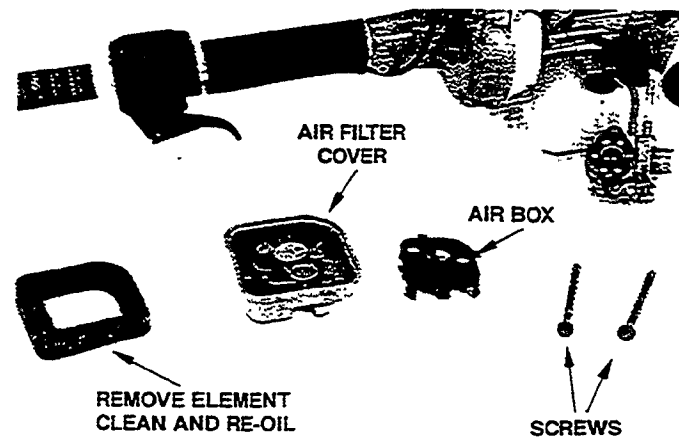

Figure 21
- Clean and service air filter (after cleaning put small amount of engine oil on sponge and squeeze out excess) (Figure 21).
- Check fuel filter in tank and clean if needed (Figure 21).